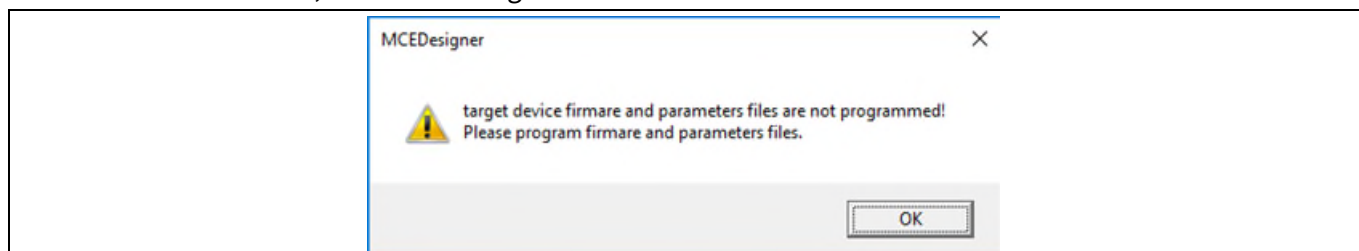

Figure 5 MCEDesigner warning message
4. (In case blank IC) If the firmware has been erased from the IMD111T, the following warning message will pop up “Target device firmware and parameters file are not programmed! Please program firmware and parameters file” as Figure 5. Then you can program the firmware and parameters as described in the Step 5. If it is not the blank IC, no such message will be indicated.